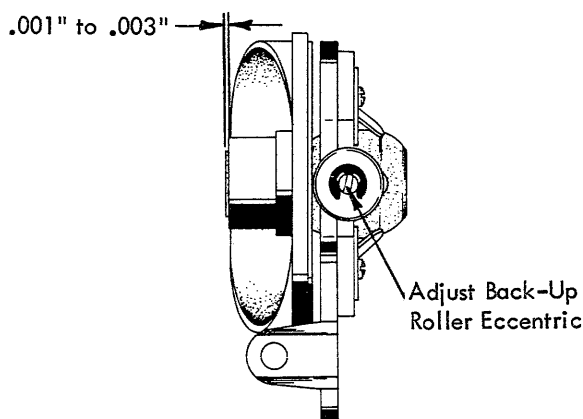

FIGURE 27. Shift Cam Back-Up Roller Adjustment
1. Shift Cam Back-Up Roller - Adjust the back-up roller eccentric left or right so that $.001''$ to $.003''$ of the cam bearing extends beyond the cam (Fig. 27). The eccentric should be kept in the bottom half of its orbit.